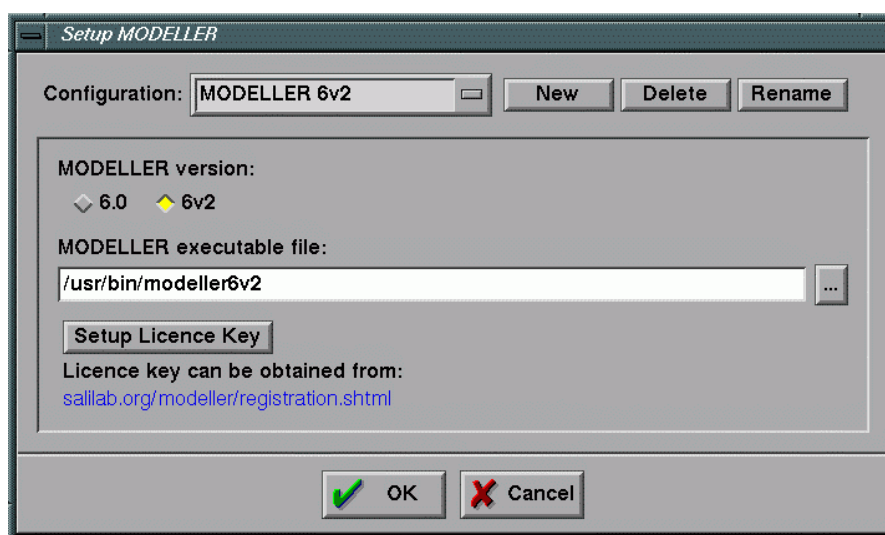

Fig 8.2 Window for setup of MODELLER
2. Configure MODELLER in *Setup MODELLER* window (**Fig 8.2**). Choose the version of your MODELLER program. Next, specify the location of the executable file on your computer. Special configurations for various versions of MODELLER and the position of its executable file on various machines can be saved and restored by user. Also the initial specification of the license key for running MODELLER can be done using this wizard after the successful registration.